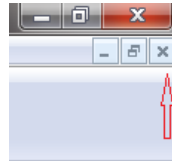

Fig.1.1.02
- Click the upper right button like Fig.1.1.02 to close the file.